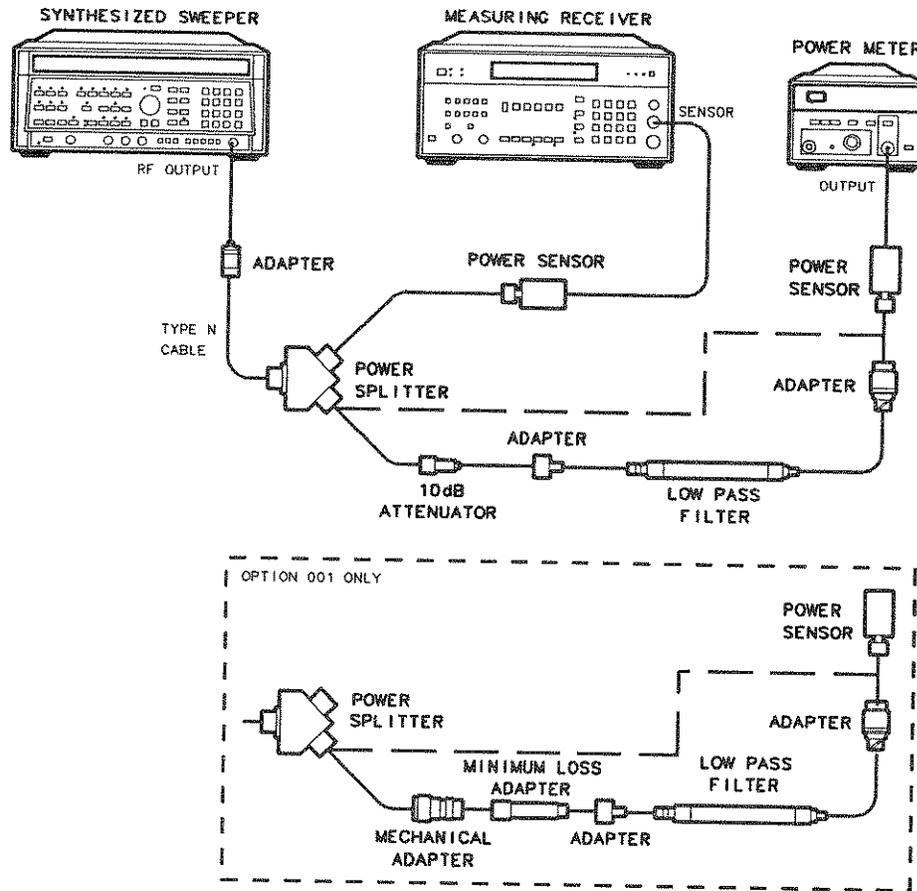

Figure 3-12. LPF Characterization
4. Connect the equipment as shown in Figure 3-12. Connect the HP 8484A directly to the power splitter (bypass the LPF, attenuator, and adapters).
7. Connect the LPF, attenuator and adapters as shown in Figure 3-12.